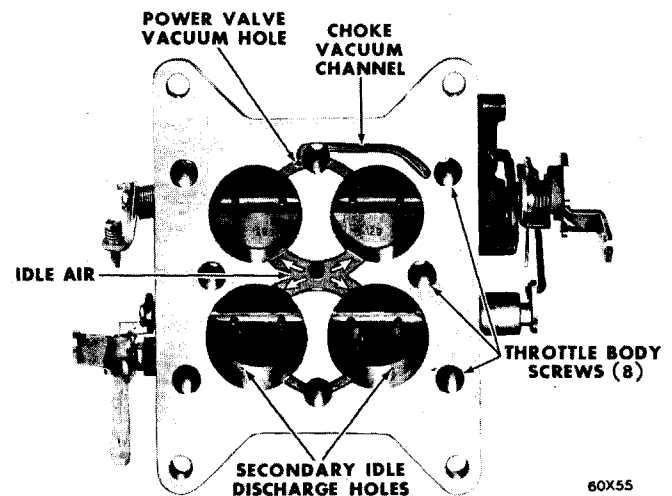

Fig. 7—Throttle Body Inverted
- (7) Remove the balance tube, washers and "O" rings.
- (8) Remove the choke connector rod by sliding upward through the seal and carburetor body.
- (9) Remove the choke connector rod and seal.
- (10) Refer to Figure 7, then remove the screws that attach the throttle body to the main body. Separate bodies and discard the gasket.